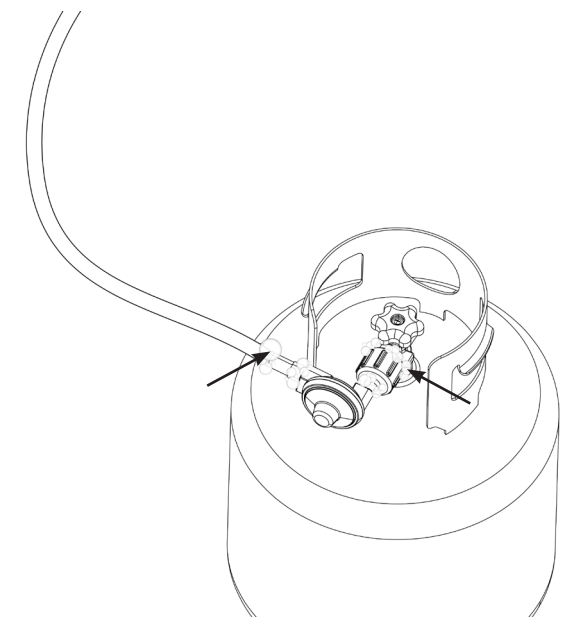

Figure 04
4. Use a clean paintbrush to brush a 10/90 mild soap and water solution onto joint areas of the valves and regulator (Indicated by arrows in Figure 04).